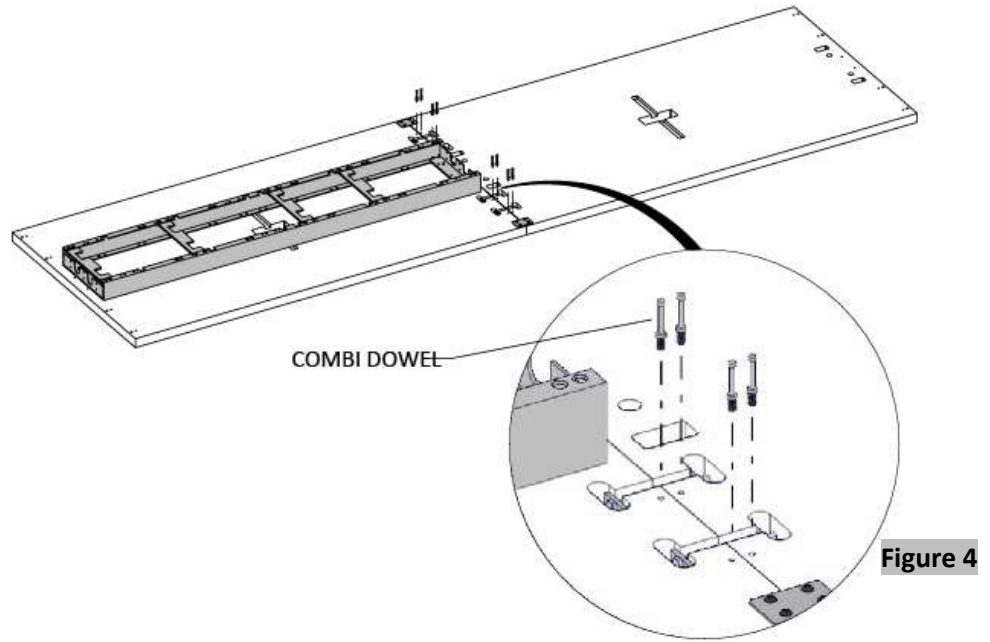

Figure 4
- 5. Attach the combi dowels by screwing them into the pre-bored holes, (Figure 4).